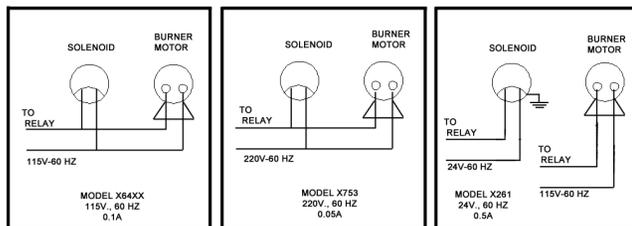

Figure 3 : Solenoid Wiring
The shut-off valve should be installed in accordance with local and national safety codes. (See Figure 3 – wiring diagrams)
#### B. WIRING (See Figure 3)
2. Attach the solenoid leads according to Figure 3 and the burner or appliance manufacturer's instructions.